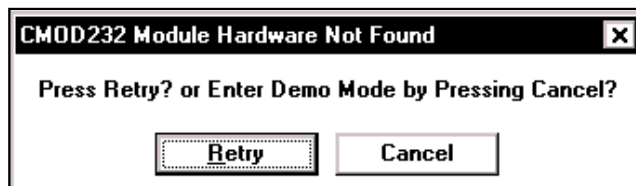

Figure 9. EV Kit Software Warning Message
**Problem 1:** CMOD232 module hardware not found (see Figure 9).